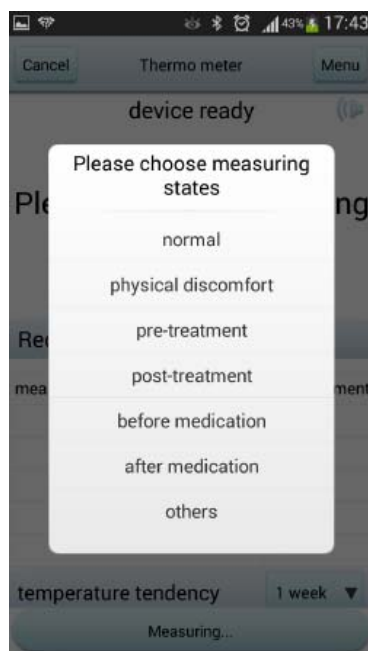
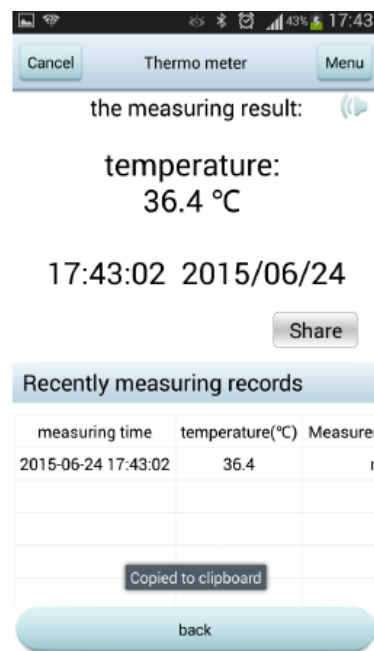

Figure 18
Figure 19
- 4) 1s after ear temperature or forehead temperature measurement it will remind you to choose the measuring states (Figure 18). After you make a choice you can see the current and recent measurement results (Figure 19).